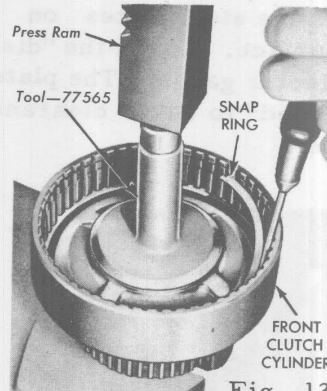

Fig. 13
- ☒ Position the front clutch release spring compressor on the release spring. Place the clutch drum on the bed of an arbor press. Compress the release spring with the arbor press until the release spring snap ring can be removed (Fig. 13).
- ☒ Position the release spring in the clutch cylinder with the concave side up. Position the release spring compressor on the spring. Compress the spring with an arbor press. Install the snap ring (Fig. 13).